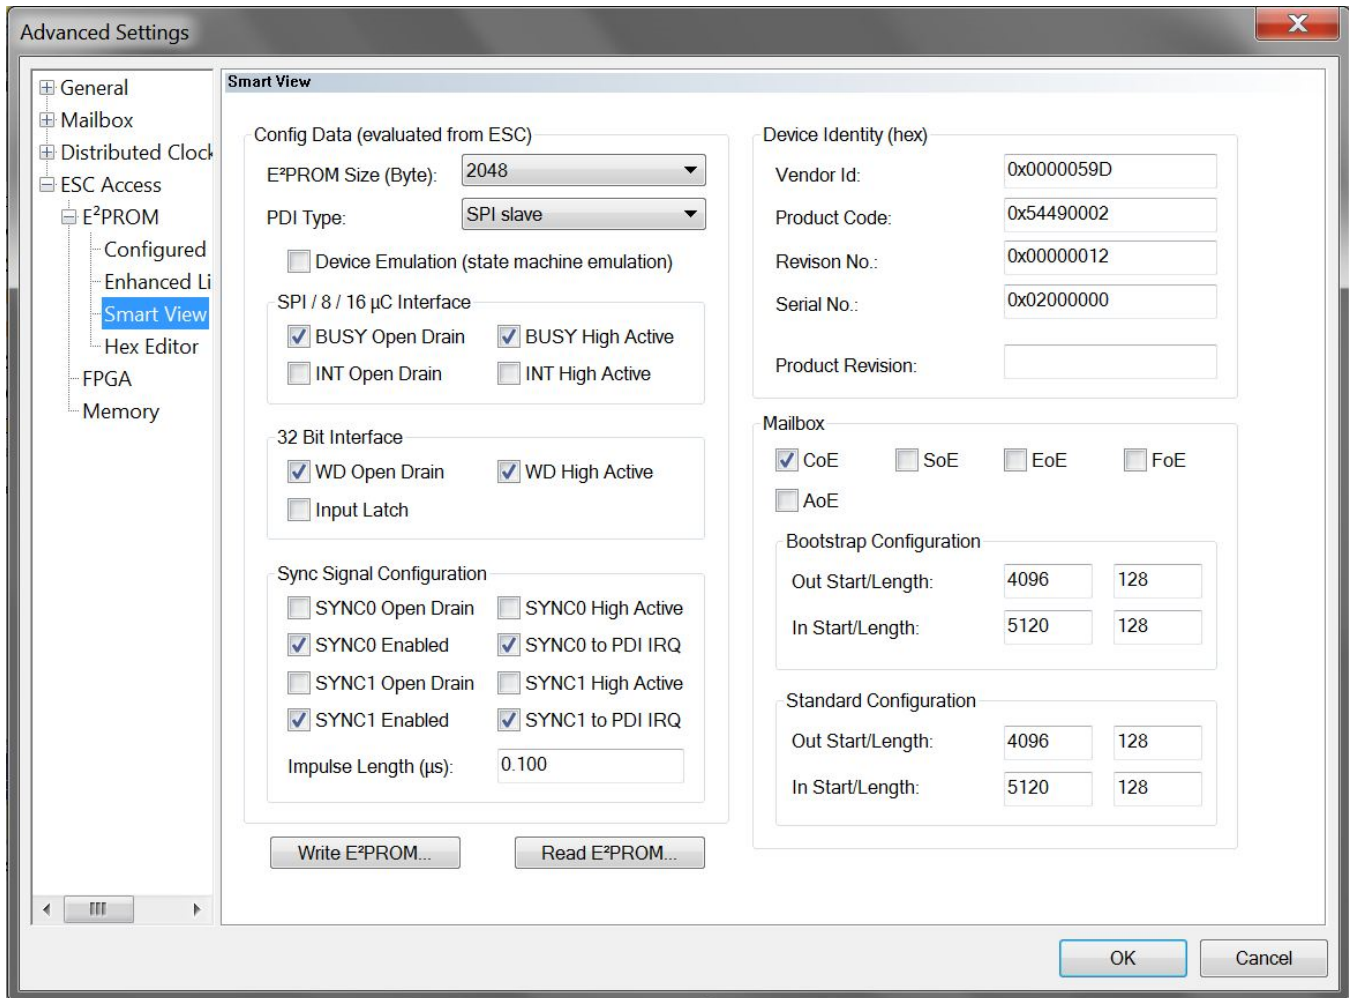

Figure 27. TwinCAT "Smart View" Slave Properties Window Showing Programmed EEPROM
- After TwinCAT writes the EEPROM (in this case for the SPI), the following “Smart View” window showing a valid configuration with PDI Type = “SPI slave” should appear (see Figure 27).